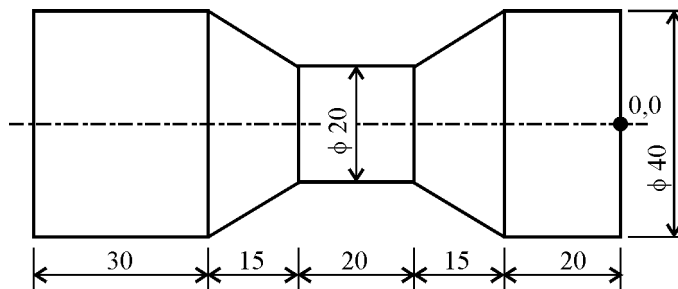

Figure No. 1
- (b) Prepare a part programme to machine the workpiece as shown in figure No. 1 on CNC lathe.